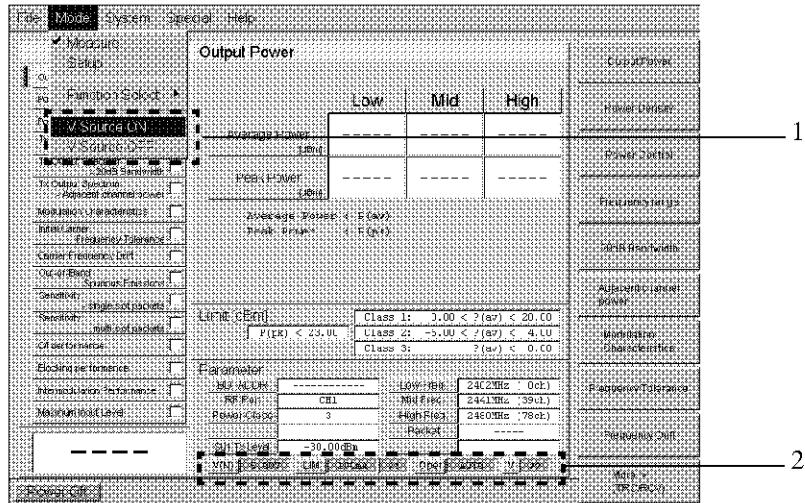

Figure 2-24 Display of Information on the Operation Menu and DC Power Supply on the Measurement Screen
- Manual Turns the output ON and OFF arbitrarily (Refer to 1 in Figure 2-24.)
Information on the DC power supply and output, etc. settings are displayed in frame 2 shown in Figure 2-24. If 2303 cannot be detected, the display in the box changes to gray and the DC power supply setting function is unavailable (Refer to Figure 2-25).